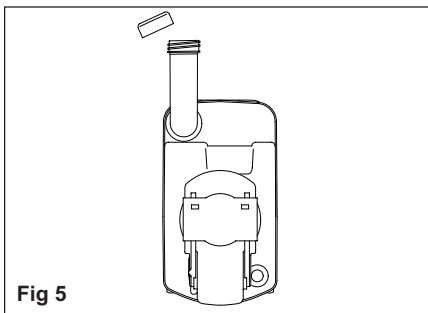

Fig 5
5. Fill a small amount of Dometic sanitary additive into the cassette tank via the spout (Fig 5).